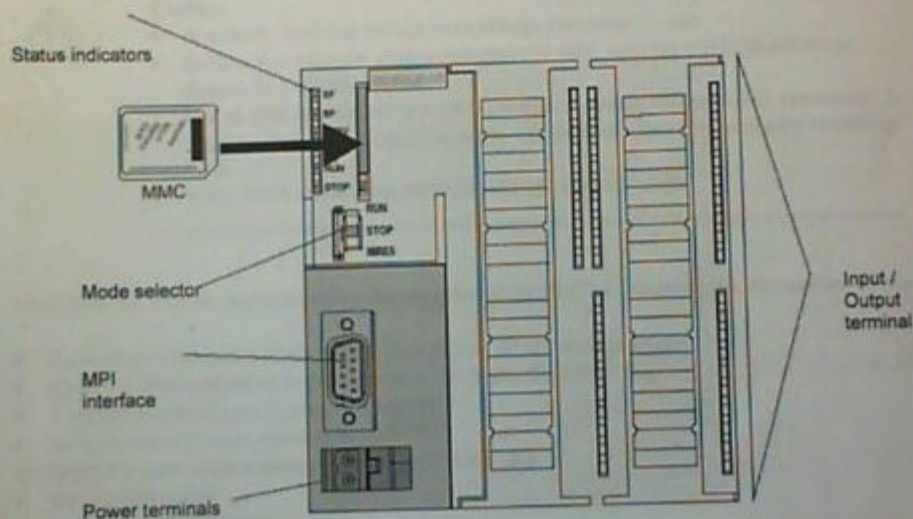

Fig. 5-1 - CPU overview
- Open the electrical panel to gain access to the front of the PLC (Fig. 5-1)